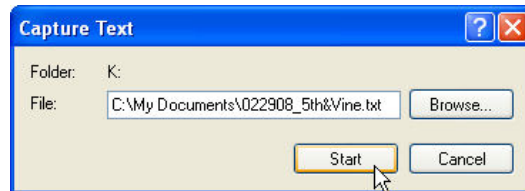

FIGURE 23
2. The **'Capture Text'** window appears see Figure 23 below. Enter a path and file name appropriate for the BBS unit. The example uses a date and intersection to designate the BBS. When finished click the **Start** button. The communication session will now be logged. The file will be saved automatically upon exit of HyperTerminal.